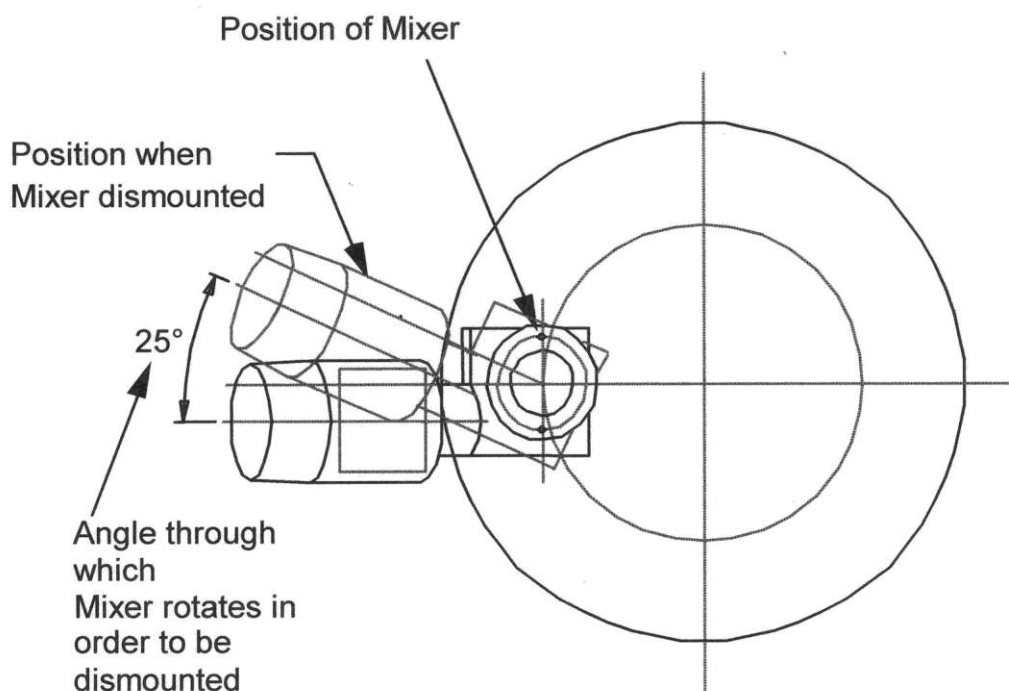

Figure A-2a Mixer position viewed from top of vessel
- (1b) Models MM8 and MM12 have two mounting studs in the mixer pad. The normal orientation of the mounting studs is as shown in Figure A-2a. This puts the axis of the mixer on the centre line of the vessel.